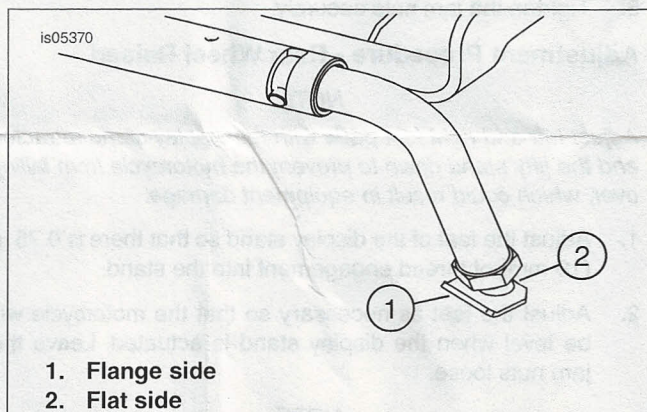

Figure 1. Chrome Display Stand Foot Orientation
5. See Figure 1. Verify that both foot pads and rear wheel are making solid contact with the ground and that the motorcycle is level and stable. Also, verify that the the foot pads are oriented with the flange side (1) facing to the rear and the flat side facing the front (2). If the stand needs additional adjustment, retract the display stand. Adjust foot pads and then engage the stand again. Repeat this step as necessary.
4. See Figure 1. Verify that the motorcycle is level and stable. Also, verify that the the foot pads are oriented with the flange side (1) facing to the rear and the flat side facing the front (2). If the stand needs additional adjustment, retract the display stand. Adjust foot pads and then engage the stand again. Repeat this step as necessary.